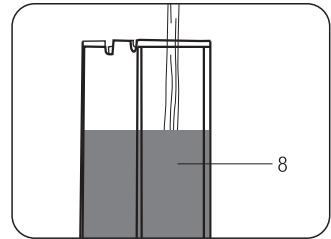

Fig.2
- Fill the tank with up to 1 liter of fresh cold water (Fig.2)